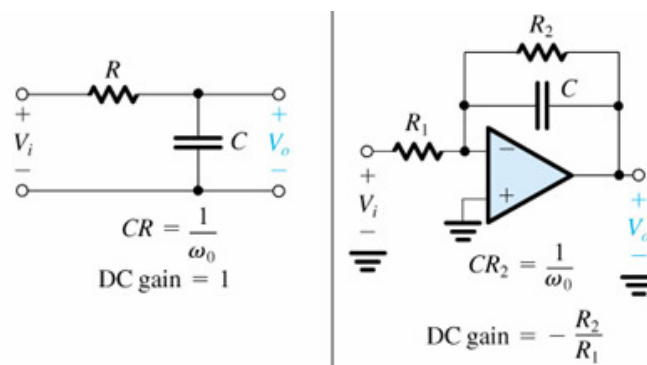

Figure 5.1: First-order low pass filters; left: passive filters; right: active filters.
Figures 5.1 and 5.2 show how first-order low-pass and high-pass filters can be implemented. In each case, there is a passive implementation (i.e. using only passive components, viz. a resistor and a capacitor), and an active implementation (i.e. with an active component, viz. an op-amp).
- the filters from Figures 5.1 and 5.2 you will implement are
5. Build the passive low-pass filter in figure 5.1 using the capacitor and the potentiometer. Connect the summing op-amp circuit's output to its input, and its output to channel Y of the oscilloscope. Vary the resistance of the potentiometer to eliminate the high frequency oscillation, without altering the low frequency oscillation.